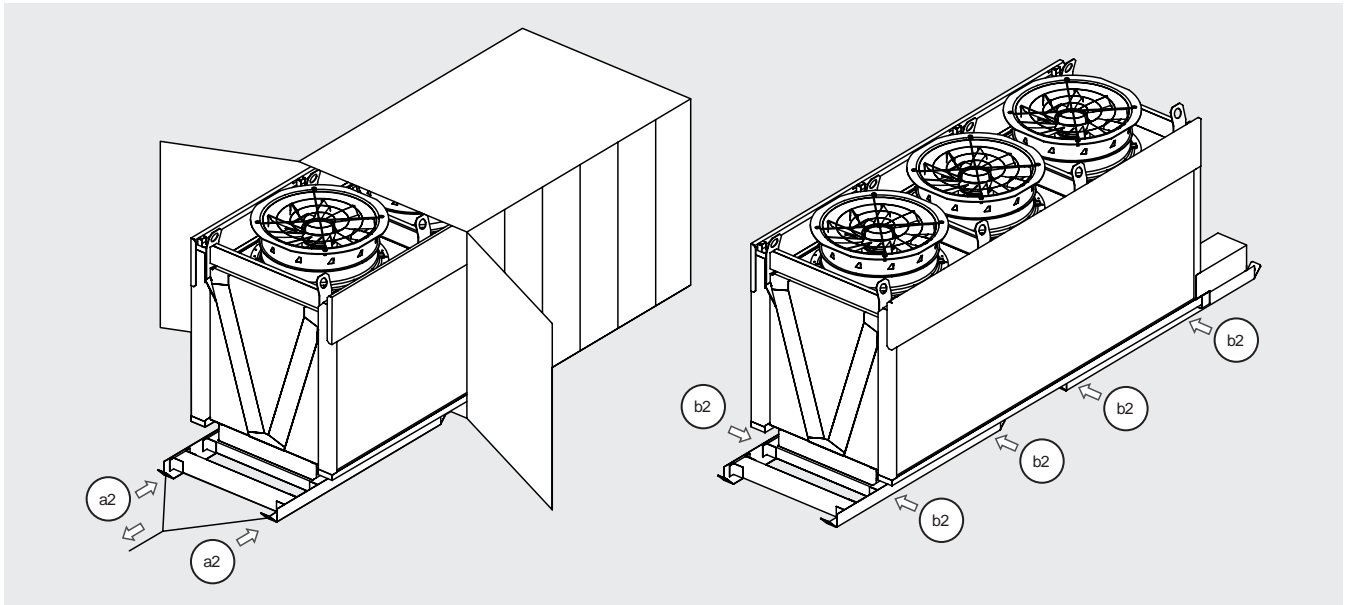

Figure 7
5.11 If the model has been shipped within a container, option available only for models with one row of fans, use the two eyebolts (a2) to pull the model out. Pull slowly without jerking. Use a forklift truck (positioned at the side) or equivalent to pull the model out of the container. Unscrew bolts (b2) to free the slide. See Figure 7.